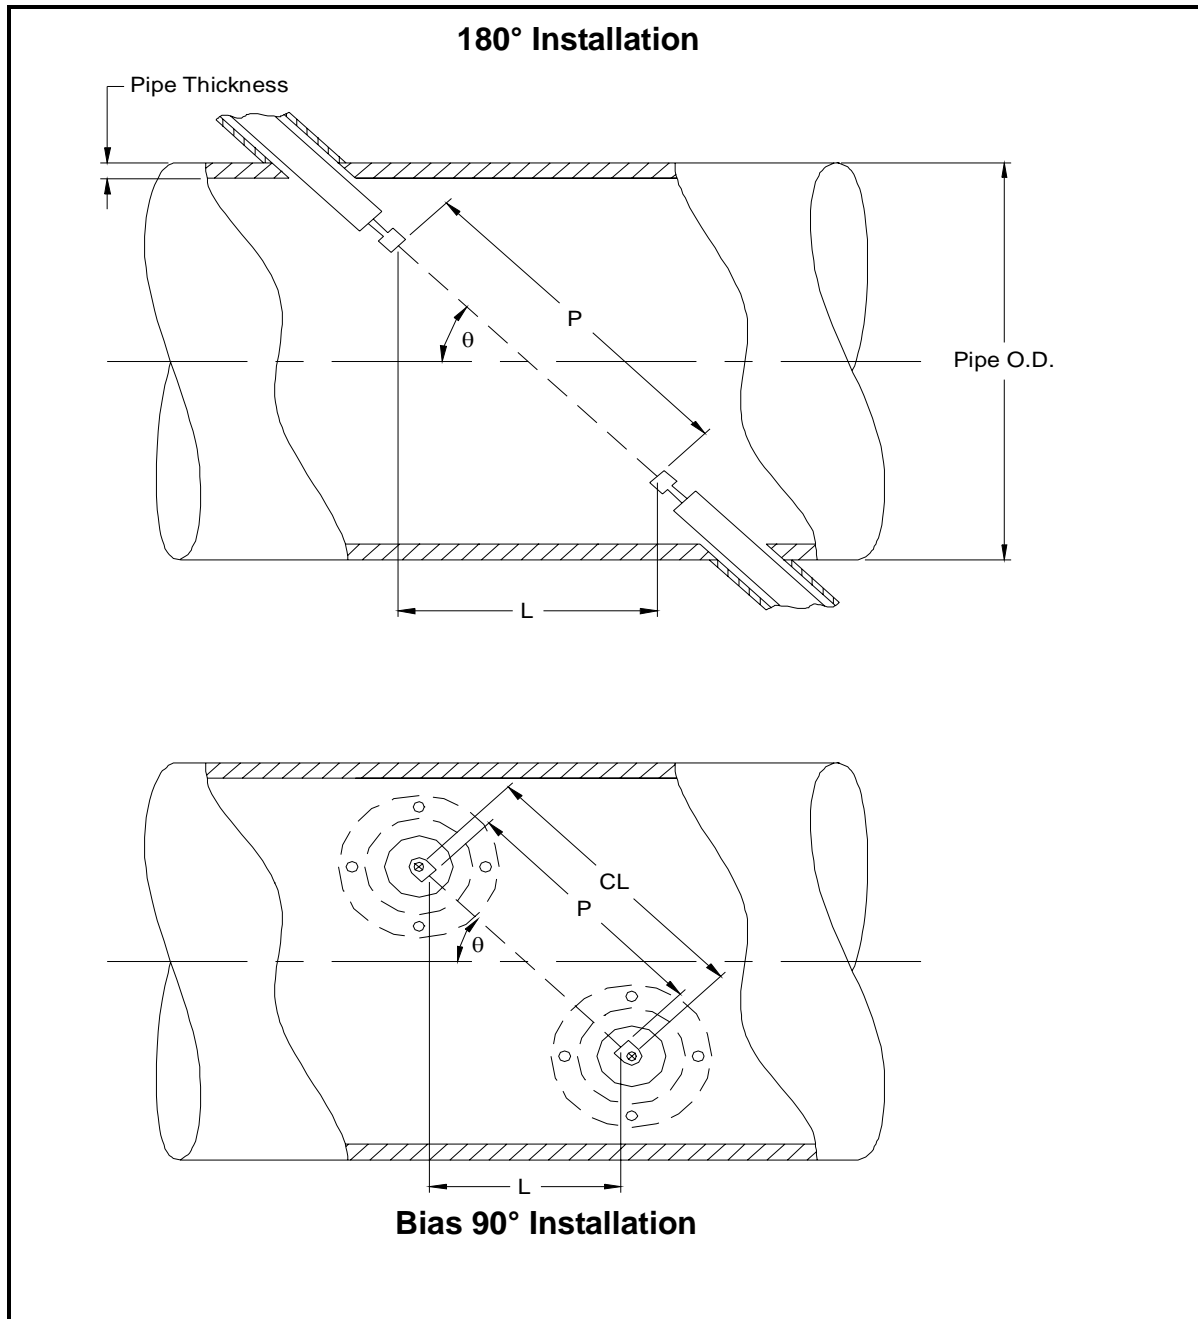

Figure D-1: Top View of Transducer Installations
The accuracy of the programmed P and L values is critical to precise flow rate measurements. If GE Panametrics supplies the flowcell for the system, the correct values will be included in the documentation supplied with the unit. For transducers installed on an existing pipe (see Figure D-1 on page D-2), P and L must be measured at the site. This appendix provides instructions for properly determining these dimensions.
Whenever possible, physically measure the face-to-face distance (P) and the axial distance (L) between the centers of the flat faces of the transducers. Refer to Figure D-1 on page D-2 for an illustration of the proper distances to measure in a typical installation.
With a Bias 90° transducer installation, it sometimes happens that the only known parameters are the transducer angle (θ) and the centerline distance between the transducer bodies (CL). In these cases, it is still possible to calculate P and L by combining Equation D-1 above with the additional Equation D-2 below (see Figure D-1 on page D-2):